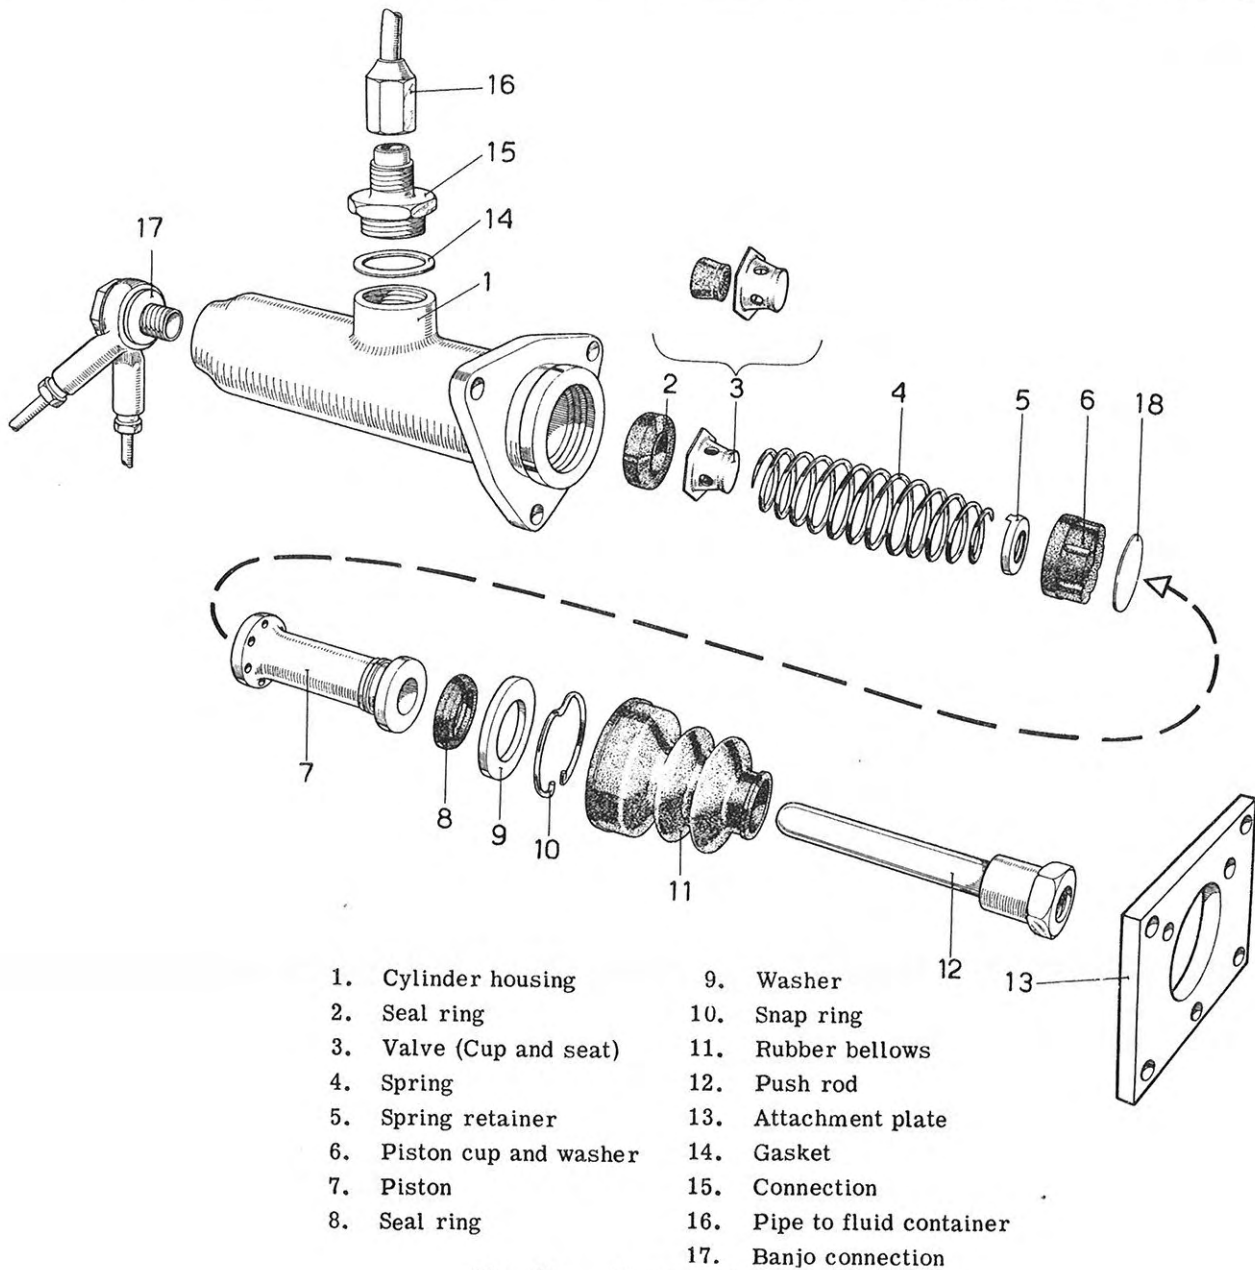

Fig. 17. Master cylinder
2. Disconnect the pipe 16, Fig. 17, from the master cylinder.
1. Remove rubber bellows 11 and push rod 12, Fig. 17.
3. Inspect the cup 6, Fig. 17, the two seal rings, 2 and 8 and the valve cup 3. Replace them if they are damaged in the slightest degree. If the rubber components are swollen, then unsuitable brake fluid has been used, or they have come into contact with gasoline or oil.
4. Dip seal ring 2, Fig. 17, in brake fluid and place it in the cylinder housing, see also Fig. 4.
9. Insert piston 7, Fig. 17, into cylinder with the push rod opening outwards. Don't forget the washer between piston and cup.